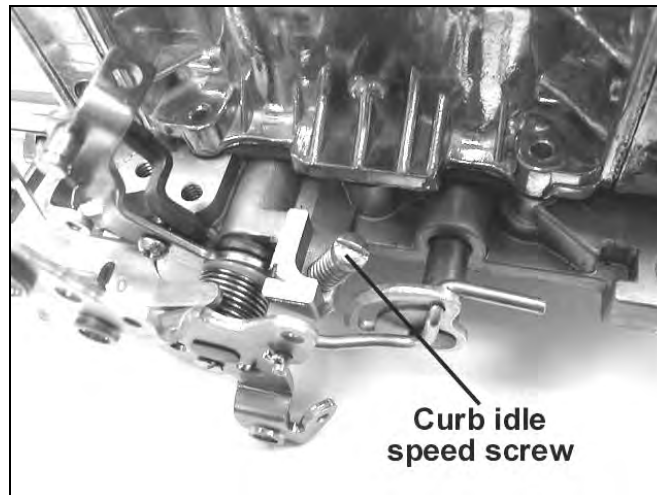

Figure 9
- Now that the idle mixture is set, it may be necessary to go back and reset the idle speed using the curb idle speed screw, as shown in Figure 9.